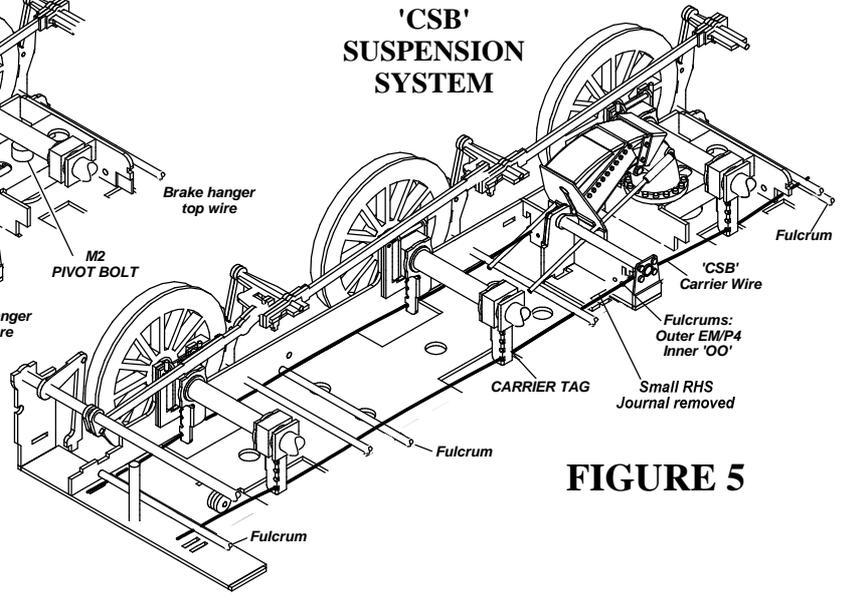

FIGURE 5
If you wish to use a **CSB** (Continuous Springy Beam) suspension system (this is illustrated in Figure 5) with this chassis then drill out the holes marked 'C' to accept your fulcrum anchors, which will be 0.7mm diameter wire. You'll also need to open out the appropriate holes in part 3 (see below) to accept your CSB wire, as shown in Figures 1 & 5. During the assembly sequence, leave out the compensation beams and the rear axle pivot – instead, solder High Level Carrier Tags to the rear of the square hornblock bearings, using the top hole in the tags to carry the CSB wire when you come to assemble the wheelsets. For more information on CSBs go to <http://www.clag.org.uk/beam-annex3.html>
Bend the Water Scoop Resting Plate (3) to the correct angle, as shown in Figure 2. For OO' chassis, remove the small circular CSB anchor boss (D in Fig. 1) and tidy up this edge, but leave the extended tabs near the bend in place. If you're going to use 'CSB' suspension, then you'll need to drill out the Fulcrum Holes in the plate to accommodate the CSB wires, as shown in Figure 5. Once you've sorted the part, slot it into its location and solder it in place. For 'OO' chassis, trim off the excess tabs, flush with the outer face of the chassis, as shown in Figure 1.
If you're fitting CSBs, the spring wires should be cut so their length is fractionally less than the distance between the inside faces of the bufferbeams - when the body is fitted, the bufferbeams prevent the wires from sliding out from under the outer fulcrums. Feed the wires through the top holes in the CSB carriers, making sure they pass under the fulcrums and through the holes in part 15 (see Fig.5).